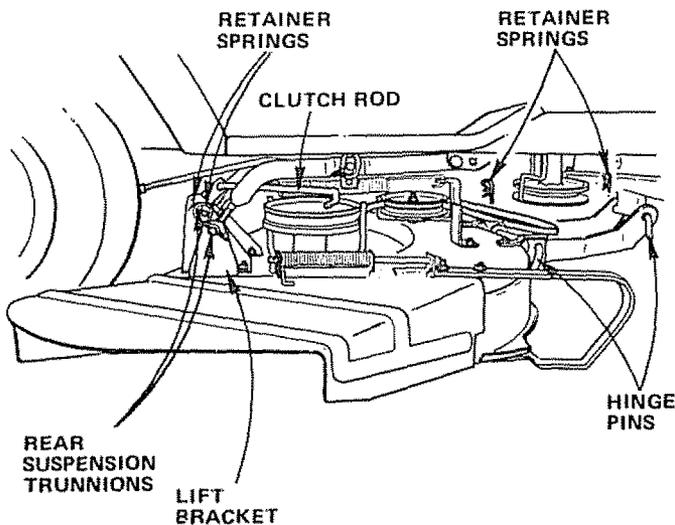

FIGURE 39
4. Pull Retainer Springs out of Rear Suspension Trunnions. Remove Rear Suspension Trunnions from Lift Brackets (Fig. 39).
6. Pull Retainer Spring out of Front Hinge Pin. Remove Front Hinge Pin (Fig. 39).